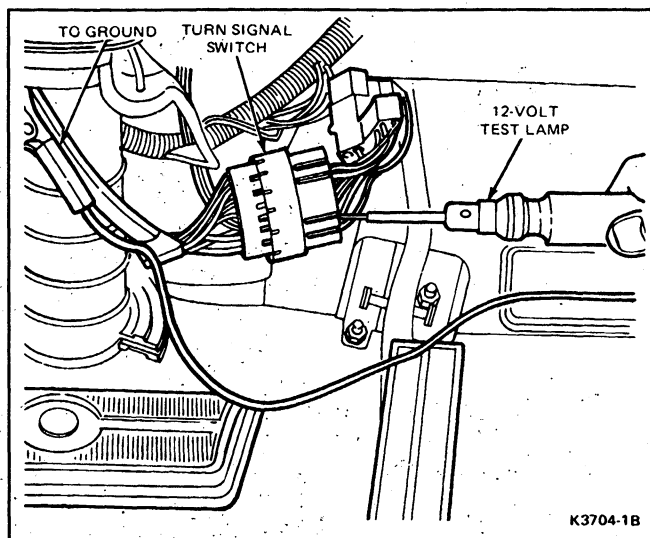

FIG. 7 Turn Signal Switch Power Out Test
3. Connect 12-volt test lamp to a good ground (Fig. 7).
4. Contact probe of test lamp to the wire connection at the switch (Fig. 7) to check for continuity to the following turn signal lights: